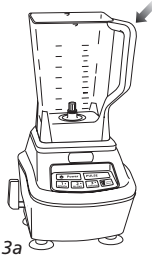

Fig. 3a
- 4 The pitcher can be placed on the motor base two ways; the handle can be on the front right corner or the front left corner. (Fig. 3a, Fig. 3b)